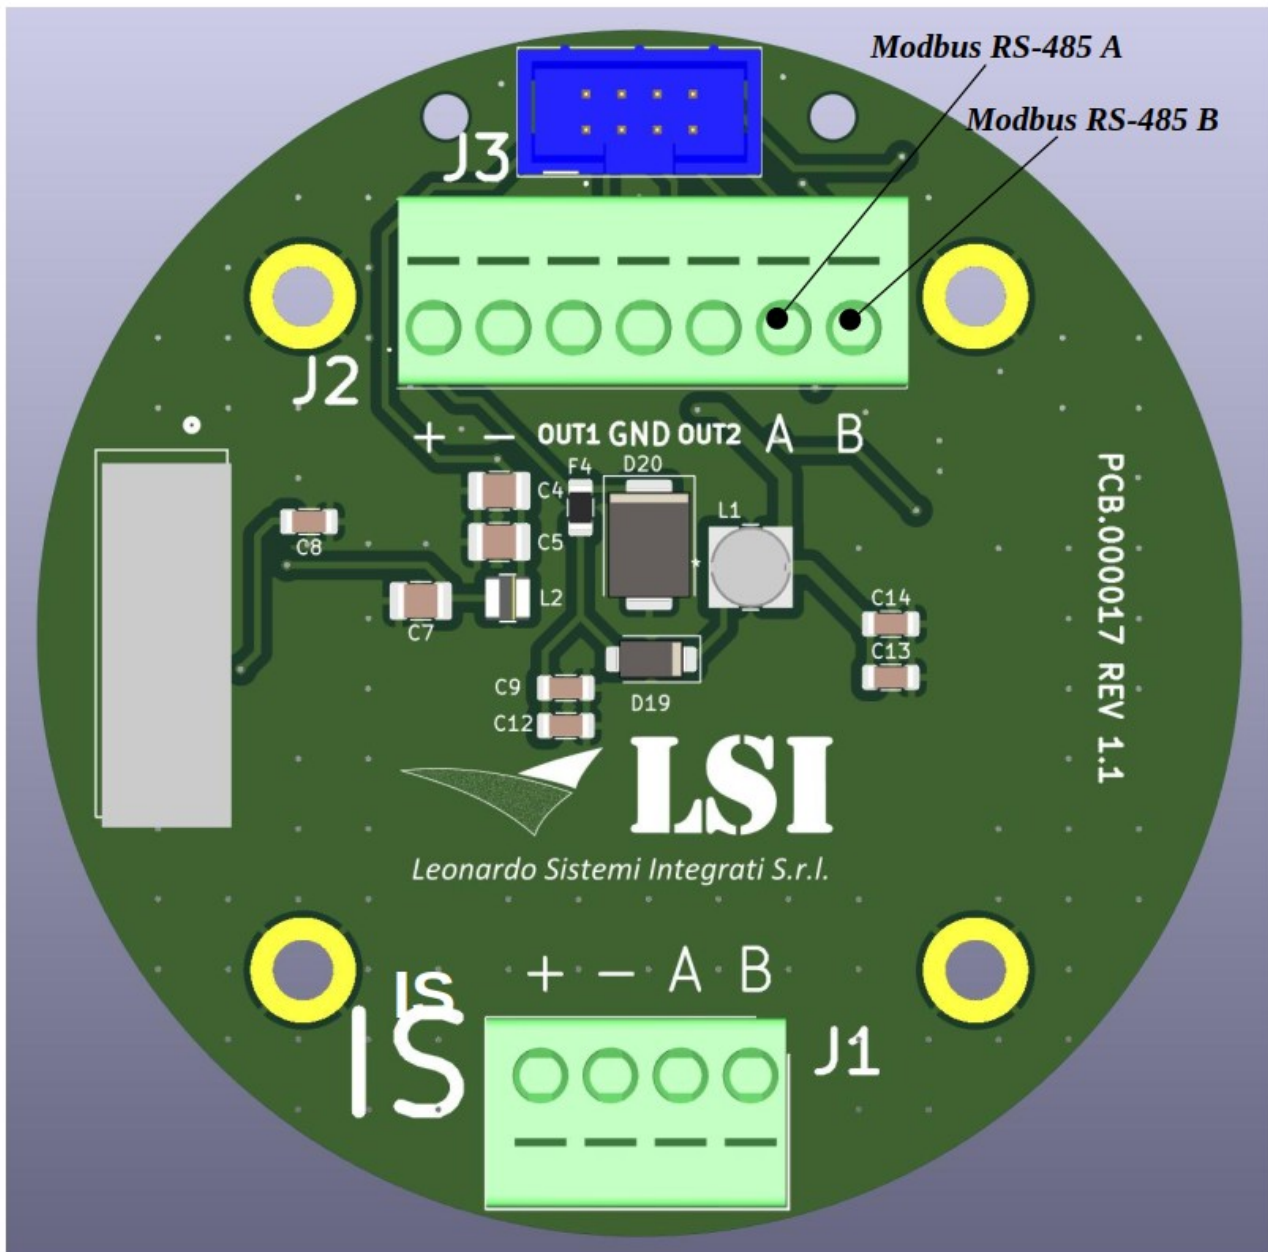

Figure 7 - MODBUS over RS485 wire connection
- VISY-COMM DISPLAY: to display level messages coming from VISY-COMMAND (FAFNIR) connected to J2 on External I/F board – see Figure 7 and see paragraph 6.3.2 for parameters settings;
- MODBUS DISPLAY: to display information coming from external device (using Modbus Function Codes 6 or 16 – up to five 32bit registers IEEE754 coded) connected by means of RS-485 bus. Additionally, there are two 16-bit registers for controlling the outputs (OUT 1 and OUT 2), making the FLD a control point as well as a display device – see Figure 7 and paragraph 6.3.3 for parameters setting;